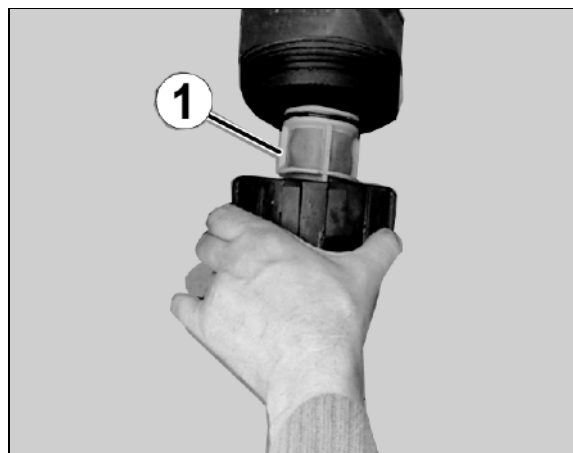

Fig. 143
- Clean the suction filter (Fig. 143) on a daily basis after cleaning the field sprayer.
- Grease the O-ring seal at the bottom of the suction filter (Fig. 143/4).
1. Unscrew the cover of the suction filter (Fig. 143/2).
2. Remove the cover with suction filter (Fig. 143/3) and clean with water.
5. Unscrew the cover of the suction filter (Fig. 143/2).
6. Activate the relief valve on the suction filter (Fig. 143/1).
7. Remove the cover with suction filter (Fig. 143/3) and clean with water.